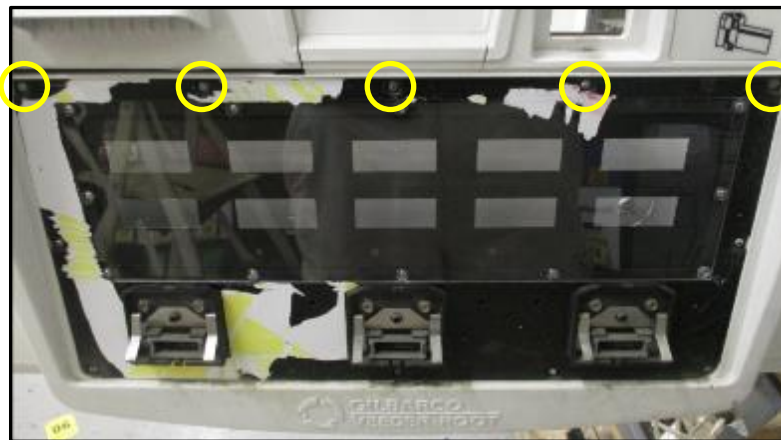

Fig 1.13 – Location of fastening screws on Product ID Plexi-Bezel
- 15.** Remove and discard the top five fastening screws on the Product ID Plexi-Bezel on the front of the Dispenser Door. (Fig 1.13)